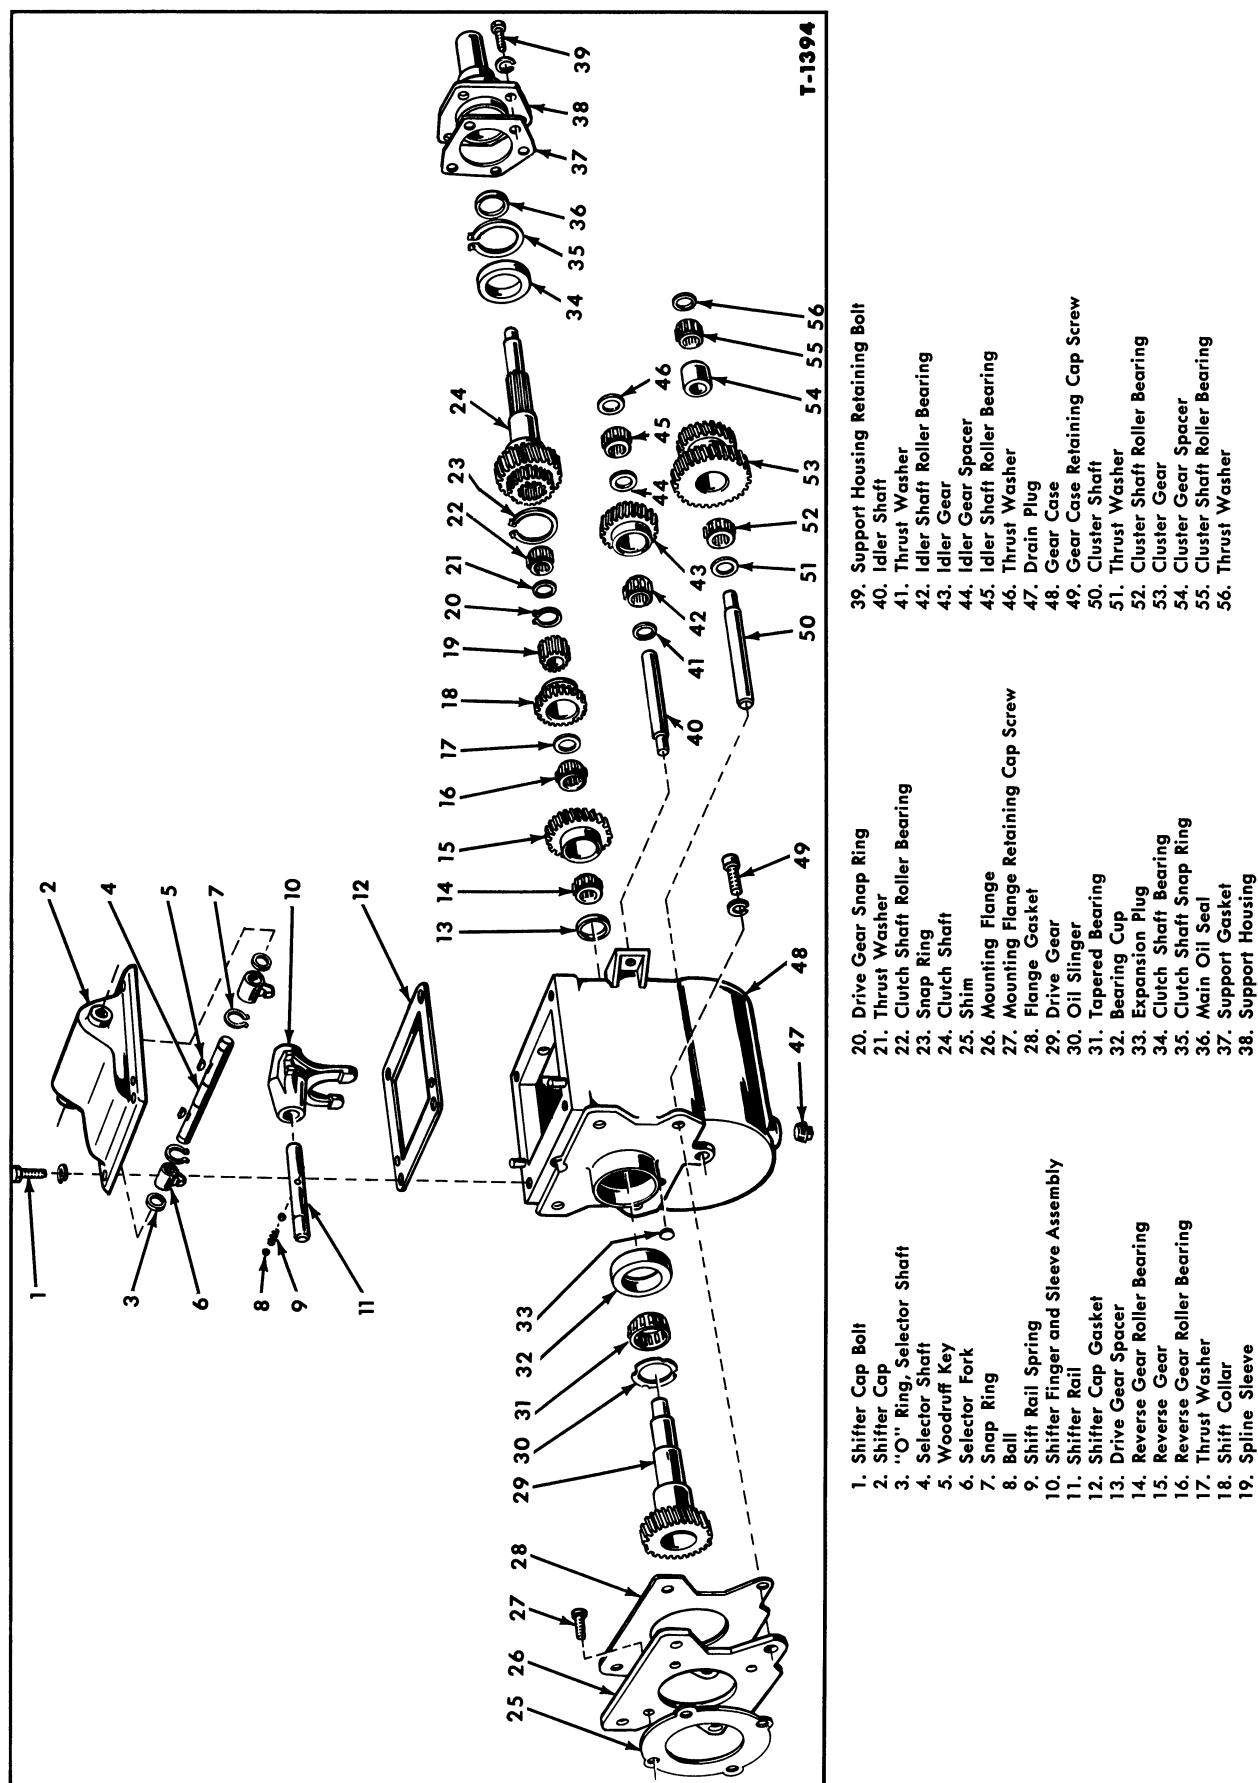
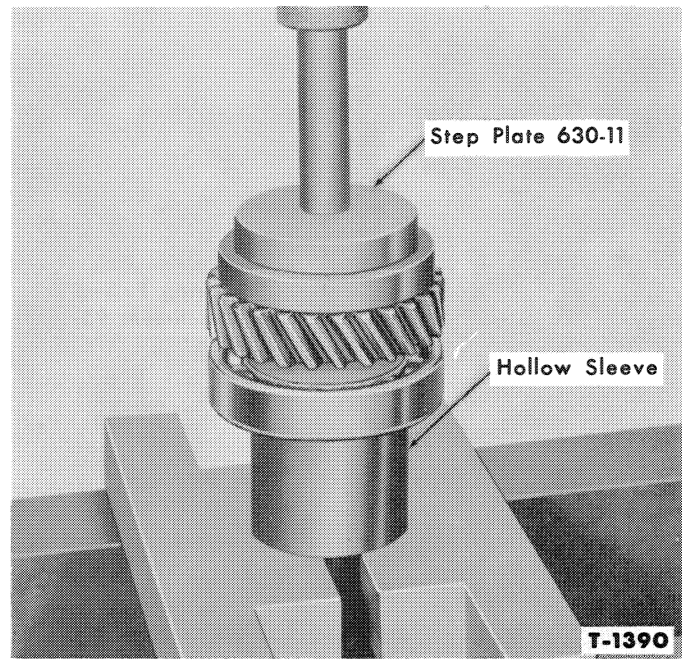
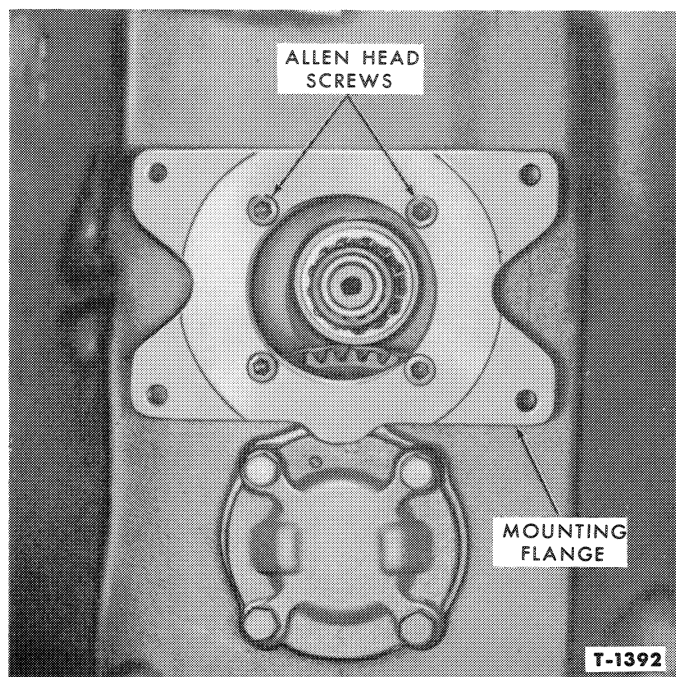

Figure 39—Forward and Reverse Transmission-Disassembled
Figure 43—Installing Clutch Shaft Bearing
Figure 44—Mounting Flange Installed in Tractor Transmission Case
3. Remove the five bolts (39), Figure 39, and lock washers that secure the support housing (38) and clutch shaft (24) to the front of the Sherman Transmission gear case. Separate these assemblies from the gear case and remove the gasket (37) from the support housing.
4. With a $\frac{5}{16}$ " socket and a $\frac{5}{16}$ " hex key approximately one inch long, remove the four hex head cap screws (49) and washers that retain the Sherman Transmission to the mounting flange (26). Remove the transmission and gasket (28) from the mounting flange (26).
5. Using the same socket and hex key as in step 4, remove the four hex head cap screws (27) that secure the mounting flange to the tractor transmission case. Remove the flange and shim(s) (25).
6. Remove the magnetic drain plug (47) from the bottom of the gear case and drain the oil from the transmission.
7. With Puller 956-2 and a slide hammer, remove the main oil seal (36), Figure 39, from the support housing (38).
12. Remove the oil slinger (30), Figure 39, from the drive gear.
13. With a brass rod and a hammer and driving from inside of the gear case, remove the expansion plug (33) located in the rear end of the case.
14. Working through the expansion plug hole with a brass rod and hammer, remove the idler shaft (40) from the gear case. Lift the idler gear (43) and thrust washers (41 and 46) out of the gear case. Remove the two roller bearings (42 and 45) and spacer (44) from the bore in the idler gear.
15. Working from the front of the gear case with brass rod and hammer, remove the cluster shaft (50) from the gear case. Lift the cluster gear (53) and the thrust washers (51 and 56) out of the case. Remove the two roller bearings (52 and 55) and spacer (54) from the bore in the cluster gear.
16. Place the gear case (48) on the bed of an arbor press, with the rear end of the case facing down. Position Step Plate 630-11 on the wide shoulder of the tapered bearing cup (32). Bring the ram of press down on step plate and remove the bearing race from the case.
1. Place the gear case (48), Figure 39, on the bed of an arbor press with rear end of the case facing up. Position the bearing cup (32) in the case with the wide shoulder of the cup facing down. Place Step Plate 630-13 on narrow shoulder of
11. Install the clutch shaft ball bearing (34) on the clutch shaft (24) using a press and a sleeve, as shown in Figure 43. Install the snap ring (35), Figure 39, in the groove in the shaft.
12. Install the clutch shaft and bearing assembly in the support housing. Install the large snap ring (23) in its groove in the support.
13. Install the magnetic drain plug (47) in the gear case.
2. Install the mounting flange (26) in the tractor transmission with approximately 0.050" thickness of shims between the flange and the main transmission case, as shown in Figure 44. The flat edge of the mounting flange must be at the top. Install the four Allen head cap screws (27), Figure 39, to secure the flange to the case. Position a new mounting flange gasket (28) on the gear case and install the transmission.